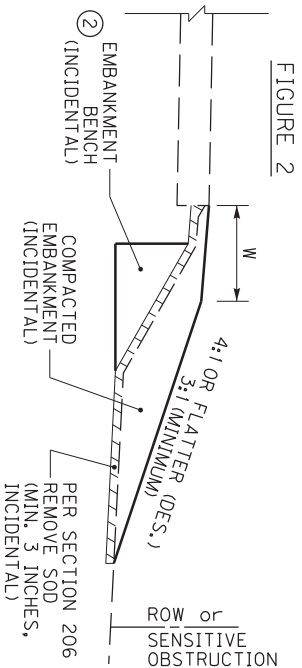

FIGURE 2
4. AS SHOWN IN FIGURE 2, MOST SITUATIONS WILL REQUIRE ADDITIONAL EARTH MATERIAL TO ACHIEVE THE PROPOSED EARTH SHOULDER WIDTH. IT IS DESIRED THAT THE RESULTING FILL SLOPE BE INSTALLED AS FLAT AS POSSIBLE AND REMAIN WITHIN THE RIGHT-OF-WAY AND/OR AVOID SENSITIVE OBSTRUCTIONS.